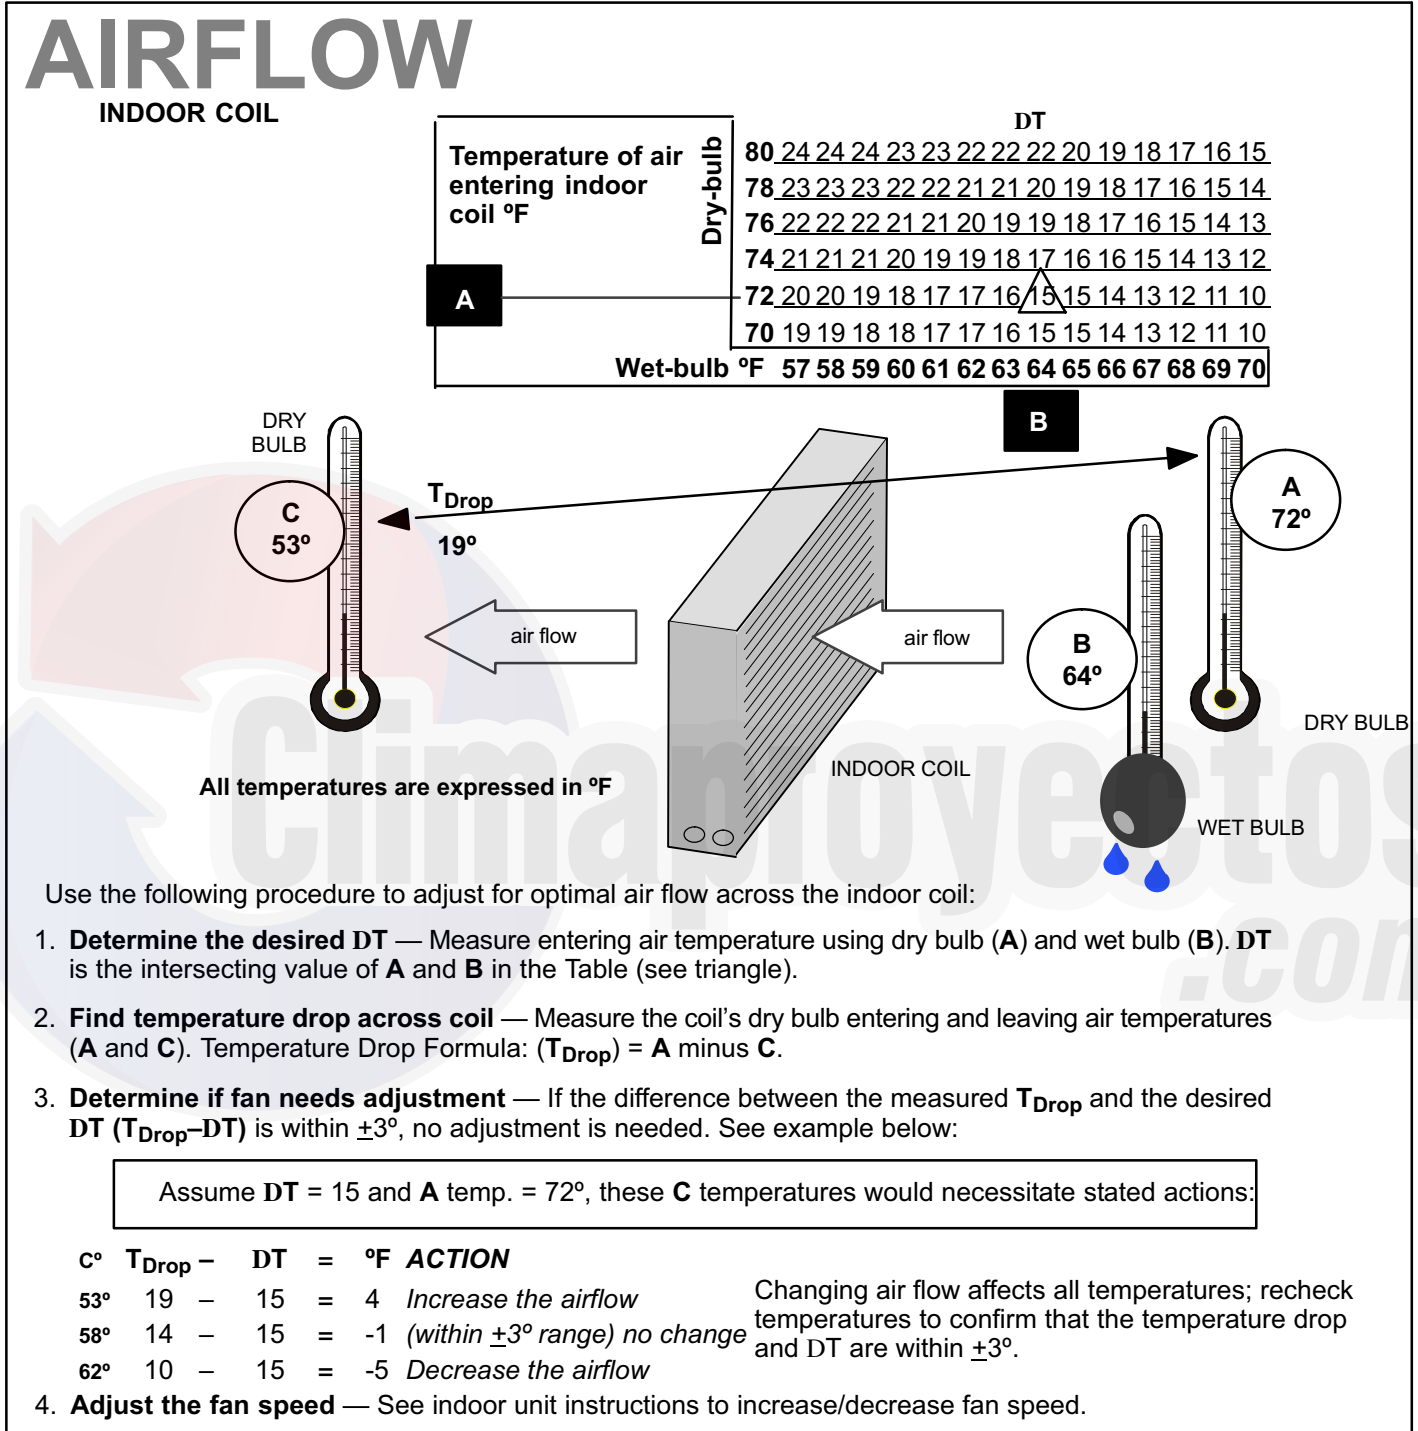

Figure 10. Checking Indoor Airflow over Evaporator Coil using Delta-T (DT) Chart
This system uses HFC-410A refrigerant which operates at much higher pressures than HCFC-22. The pre-installed liquid line filter drier is approved for use with HFC-410A only. Do not replace it with components designed for use with HCFC-22. This unit is NOT approved for use with coils which use capillary tubes or fixed orifices as a refrigerant metering device. Check airflow using the Delta-T (DT) process using the illustration in Figure 10.